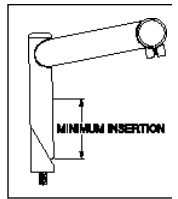

Fig. 1
- On threaded steerers, insert stem to a minimum depth according to CPSC and JIS standards. The stem must be inserted to a minimum engaging length not less than 2.5 times the stem diameter from the lowest end of the stem, not the wedge (see Fig. 1).